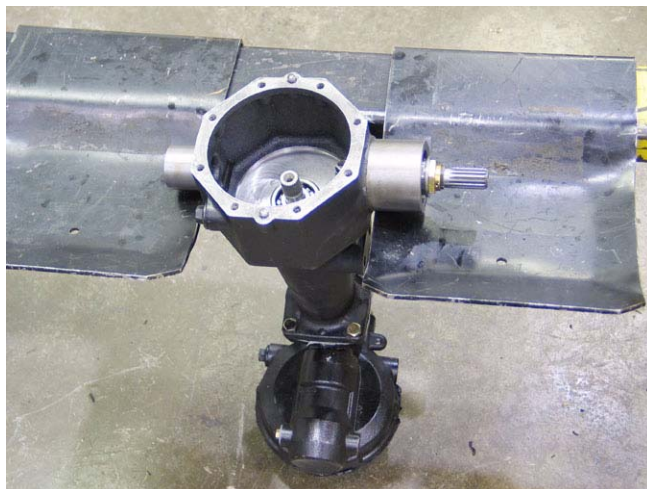

Figure 9.42
9.42. The final assembly is easiest to perform with the axle housing in a vertical position. See Figure 9.42.